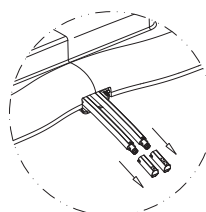

Figure 1
1. Gently pull out the nozzle while holding the tube. Remove the nozzle in the direction of the arrow (Figure 1).